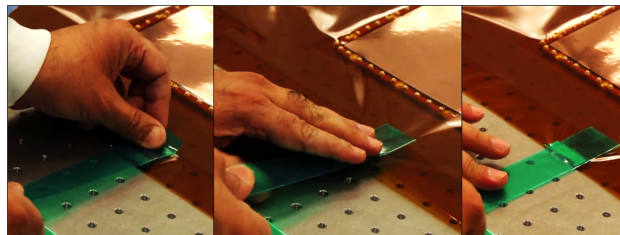

Figure 58: Pre-stretching the foil (1).
Step 9: In order to pre-stretch the foil, attach the tape on the Kapton area, on both large and small bases of the trapezoid, and then gently pull it towards you before fixing the tape on the table (Fig. 58). Do not exaggerate the stretching strength under the penalty of deforming the GEM foil.